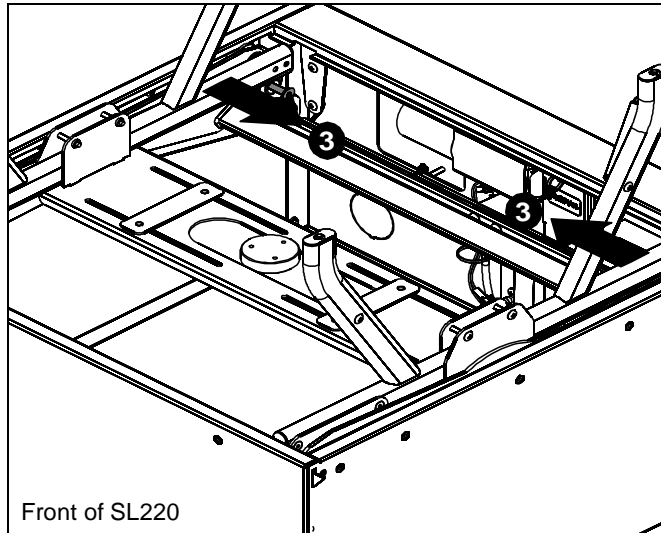

Figure 14
3. Gently pull projector cradle away from sides at rear of SL220. (See Figure 14)